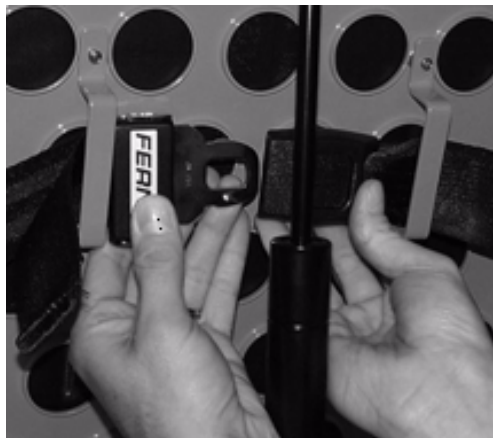

Figure 75
4. Wrap the straps around the backrest and insert the ends of the straps through the brackets. Securely fasten the buckle (see Figure 75).